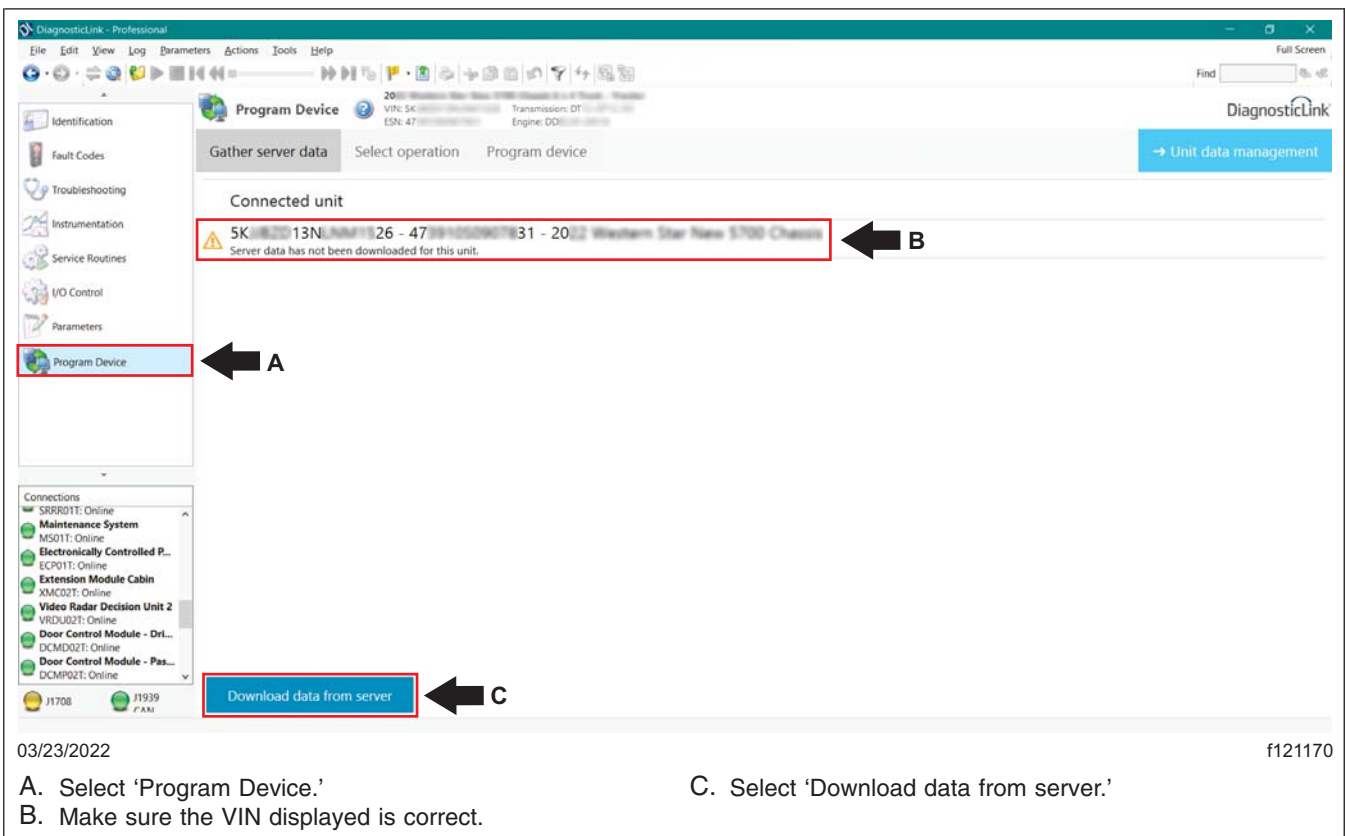

Fig. 25, Downloading Vehicle Data
- 21.4 Go to the 'Program Device' tab, and make sure that the vehicle identification number (VIN) is correct. Select 'Download data from server.' See Fig. 25.